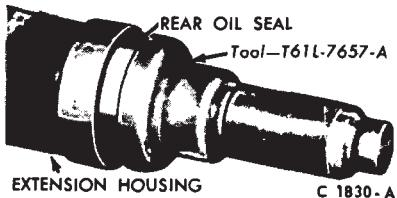

FIG. 5—Installing Extension Housing Seal
3. Install the new seal in the extension housing with the tool shown in Fig. 5.
5. Install a new seal in the housing as shown in Fig. 5.